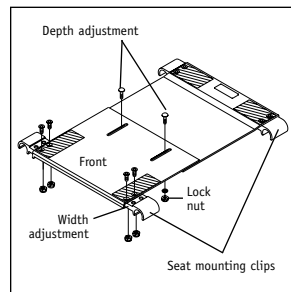

Figure 2
- Remove the two screws that secure each seat mounting clip to the seat pan (Figure 2).
- Position the seat mounting clips to the desired position (Figure 2), reattach the screws. Each hole is .5" apart for a total of 2" of width adjustment range.
- Loosen the two lock nuts on under side of seat pan that attaches front seat pan panel to rear seat pan panel (Figure 2).
- Reposition seat pan to the desired length (Figure 2), and reattach the lock nuts.